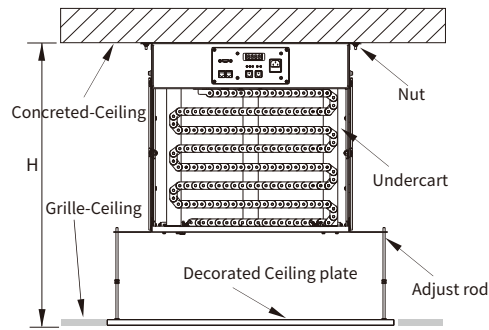

Figure 3 Standard ceiling installation
A. If  $H < H1$  (Supposed it's Maximum H2), can install project lift on the Concreted-Ceiling directly Check Figure 3.